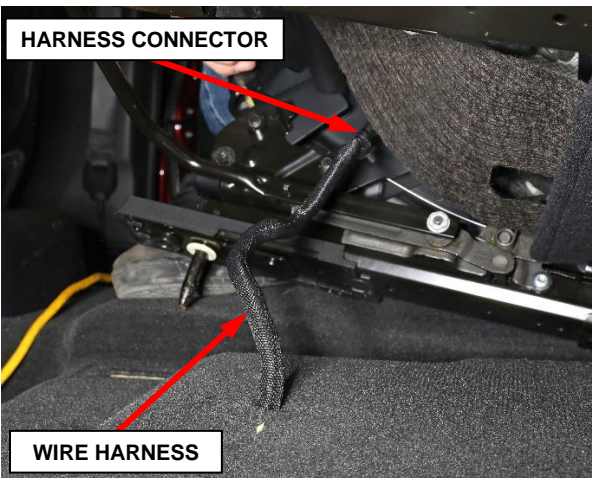

Figure 51 – Seat Wire Harness
14. Second row 40% seat only, tilt the seat rearward then disconnect the electrical connector under the seat (Figure 51).